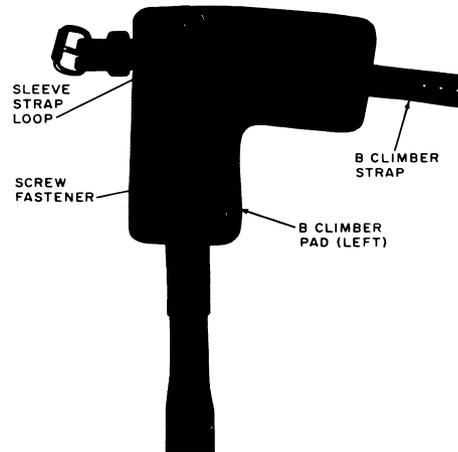
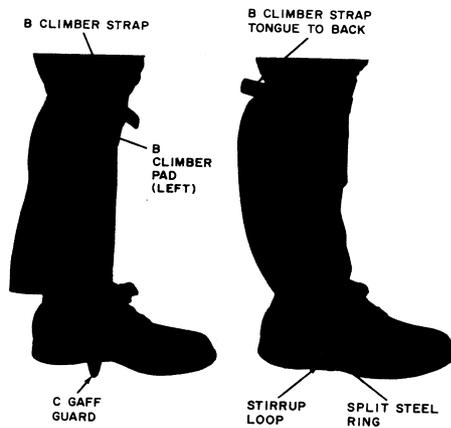

Fig. 6—B Climber Strap and Pad Installed on Climber
Fig. 9—Climber Strapped to Leg
**2.11** The B climber strap (Fig. 6) consists of a 22- or 26-inch strap with a buckle permanently attached. The B climber strap is used to hold the pad on the leg iron and to fasten both to the employee's leg when the climber is worn.
- (2) Place the B climber strap and pad on the sleeve as shown in Fig. 6. The strap should be placed so the tongue will point toward the back of the leg when buckled.
- (3) Place the sleeve on the shank of the climber step on the stirrup and buckle the foot strap so the stirrup is held firmly against the arch of the shoe. Adjust the sleeve to a position that is most comfortable.
- (4) Place one of the slotted hexagon head setscrews through the hole in the sleeve that is aligned with the threaded holes in the climber and tighten the setscrew to hold the sleeve in place.
- (5) Strap the climber to the leg as shown in Fig. 9 to see if it feels comfortable. Climber should be adjusted to the maximum length which is most comfortable.
- (6) If the climber feels comfortable, remove the climber and add the second setscrew (see 2.08) and tighten both screws to hold the sleeves securely. If uncomfortable, move the setscrews up or down one hole on the sleeve as required to find the most comfortable position.
- (7) Repeat the procedure for the other climber.